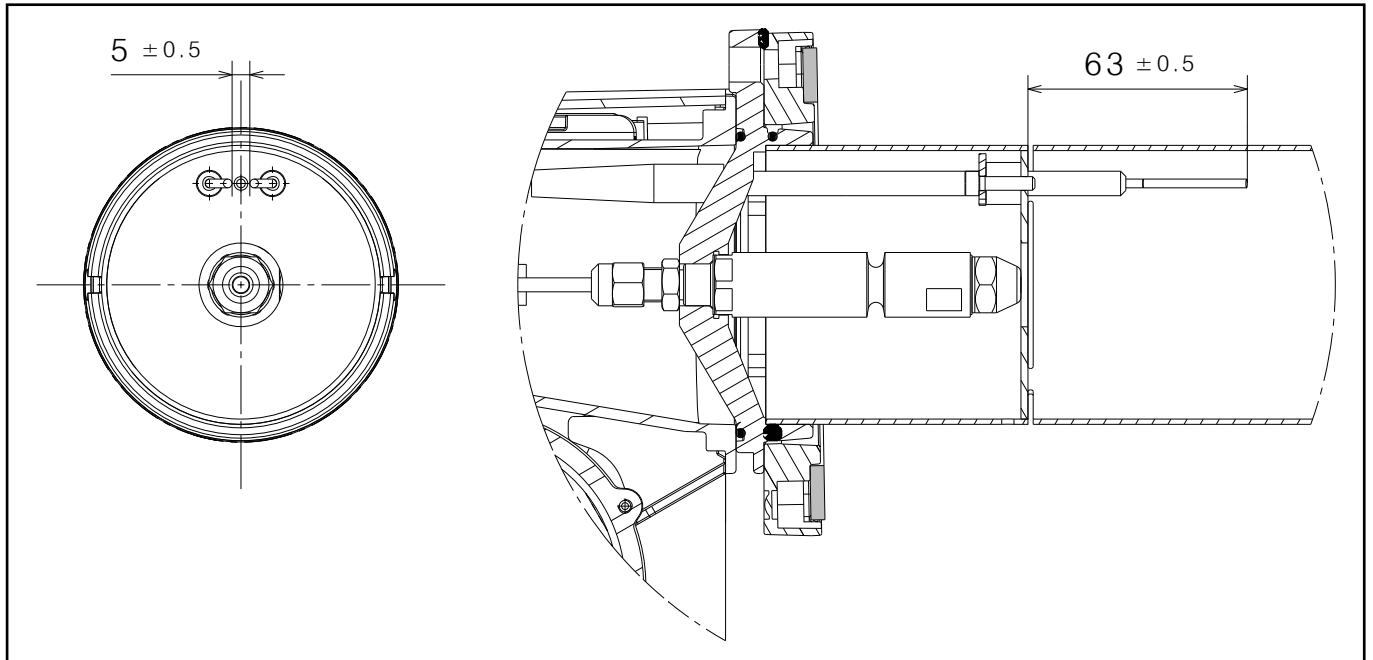

Figure 16-7: Ignition electrodes
5. To adjust the electrodes: Loosen the electrode clamp screw and move the electrode unit to achieve the gap 'in Figure 16-7, tighten the screw.
11. Always check the electrode settings after replacing the nozzle, see Figure 16-7.